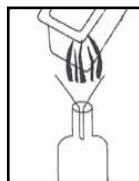

Fig. 7
- Make sure the oil has cooled (approximately 2 hours) and then empty the oil from the oil reservoir into another container or bottle. (Fig. 7)